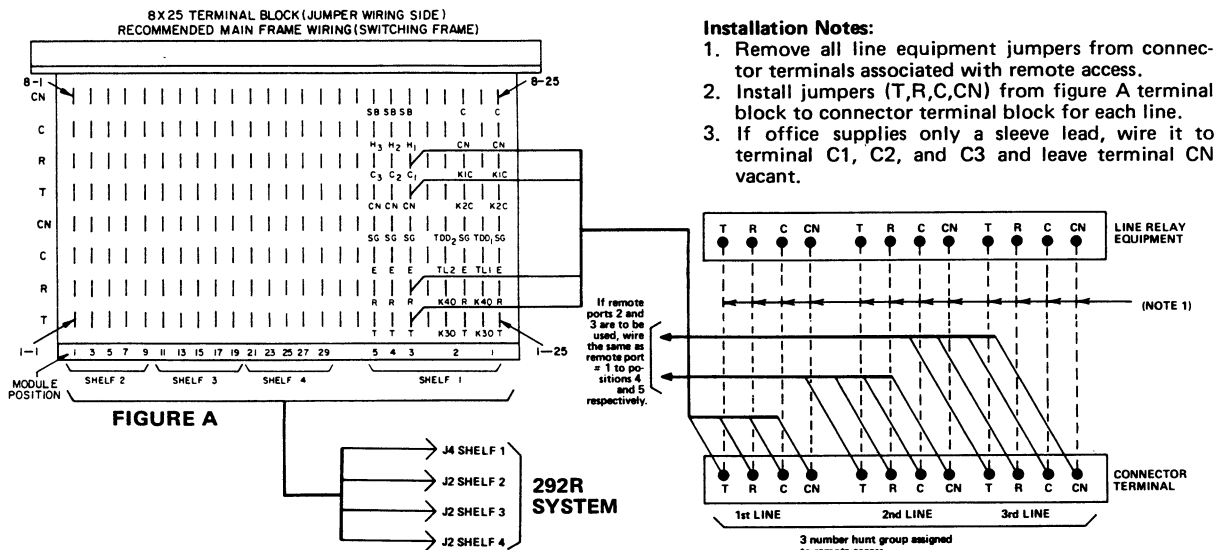

figure 10. Typical wiring for remote access capability in SxS, X-Bar, EAX, and other offices that supply a sleeve or control lead (9296 remote access port)
- G. If remote access (i.e., conference access by calling in via an unlisted number) is desired, run similar jumpers from the connectors corresponding to the chosen unlisted numbers (those that the emergency crew members call to enter the conference) to the switching equipment terminal block (see figure 10, 11, or 12, as appropriate). Provision is made for up to three unlisted numbers, and these should be arranged as a hunting group.